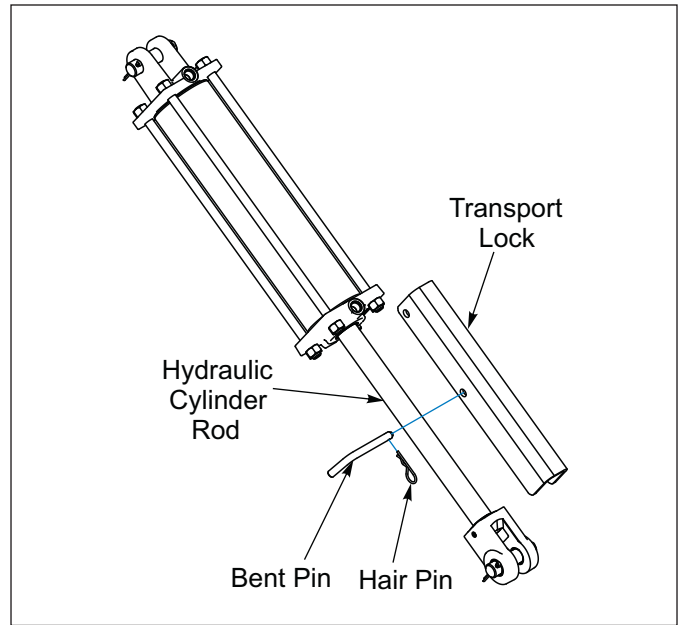

Figure 3-8: Transport Lock Installed
4. Fully raise the Seeder and install the Transport Locks over the Hydraulic Lift Cylinders. **See Figure 3-8.**
1. Fully raise the seeder extending the lift cylinders. Fully raise tractor 3-PT Hitch. Install Transport Locks. **See Figure 3-8.**
6. Re-install Transport Locks. **See Figure 3-8.**
4. Install Transport Locks over Lift Cylinder Rods and secure with bent pins and hair pin cotters. **See Figure 3-8.**